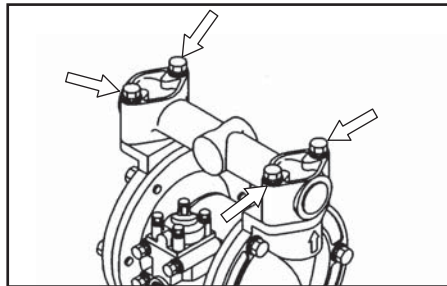

Figure 11
- Remove the retainer bolts from the out manifold, and remove the out manifold (See Figure 11).